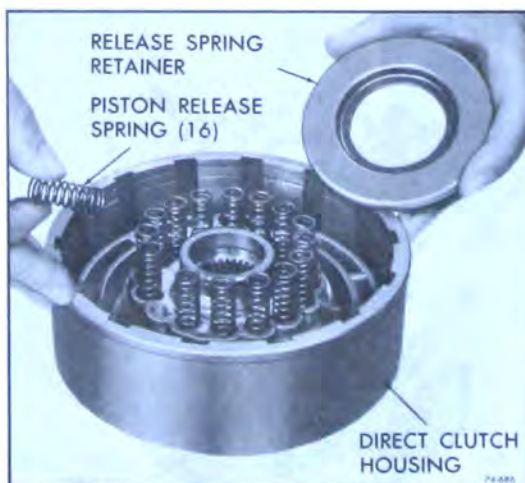

Figure 74-687
5. Install sixteen (16) springs into the piston. See Figure 74-687.